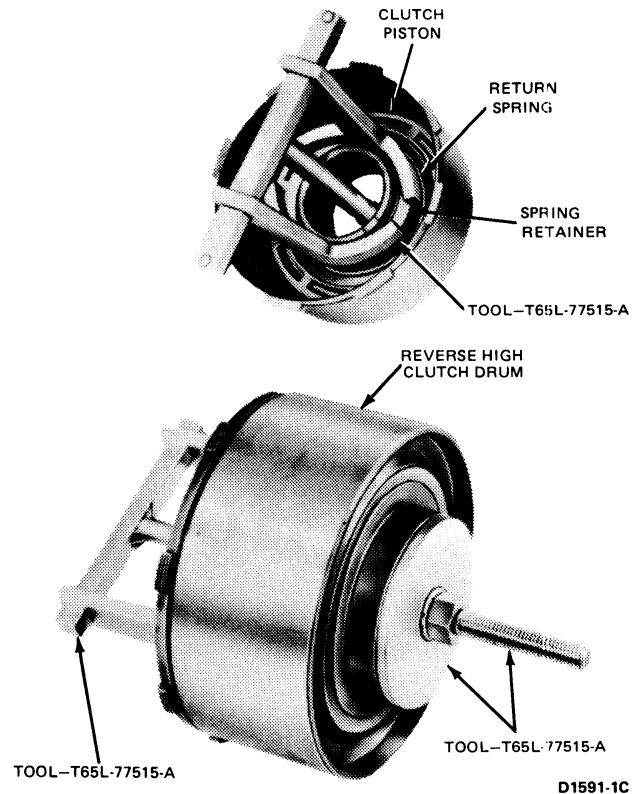

FIG. 38 Removing or Installing Reverse-High Clutch Piston Snap Ring
- Install Tool T65L-77515-A (Fig. 38) on the reverse-high clutch drum. Make sure that the legs clear the snap ring enough to remove it. Remove the snap rings and remove the tool.
- Install Tool T65L-77515-A (Fig. 38) and compress the springs. Make certain that the spring retainer is centered while compressing the springs. Install the snap ring. **Before releasing the pressure on the tool, make certain that the snap ring is positioned inside of the four snap ring guides on the spring retainer.**